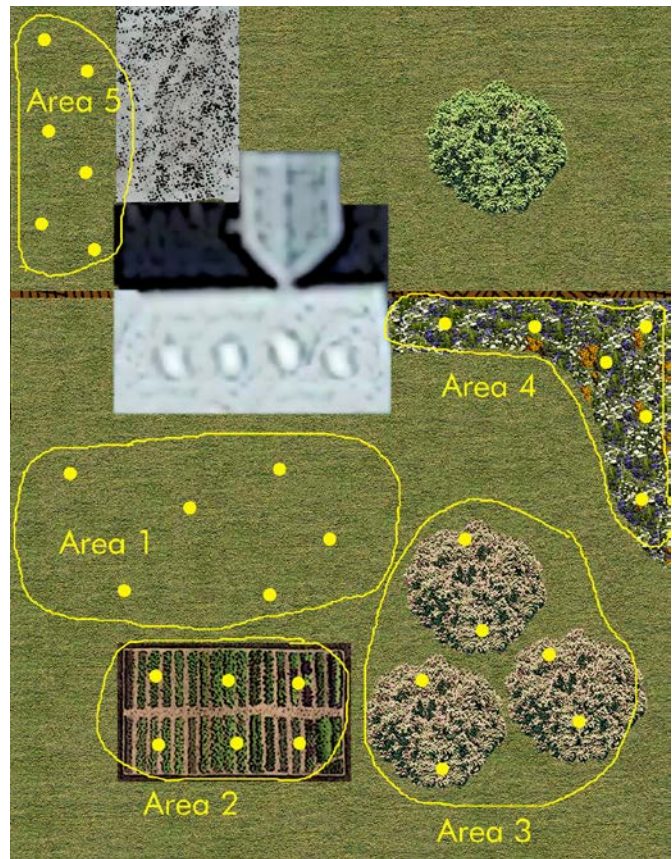

Figure 1. Example of locations to take different samples.
2. Each sample should represent **only one soil type or area** (for example, lawn, vegetable garden, landscape beds). See **Figure 1** for an example.